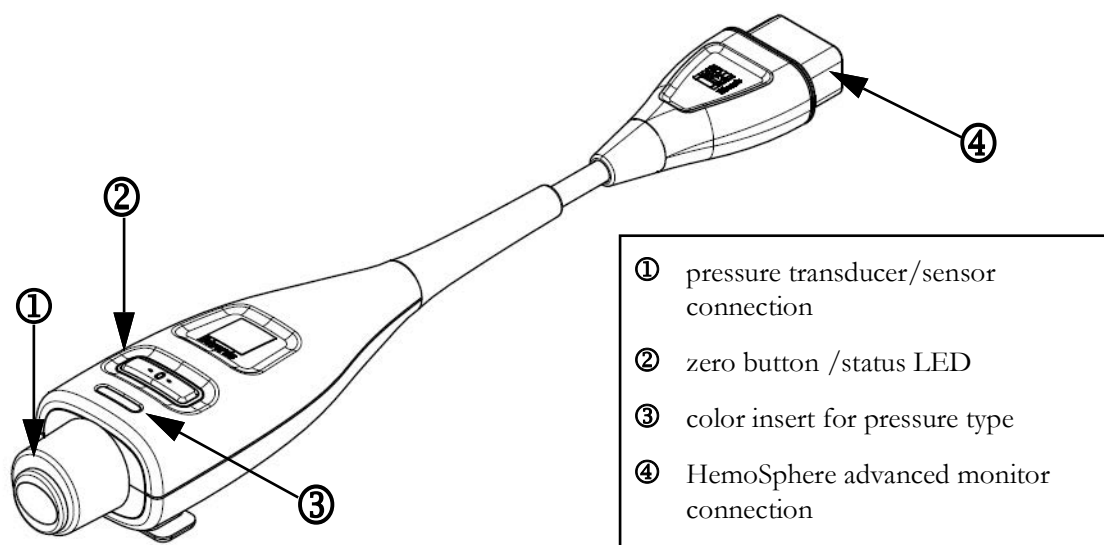

Figure 10-1 HemoSphere pressure cable
The HemoSphere pressure cable is a reusable device that connects with the HemoSphere monitor on one end ④ and any approved single Edwards disposable pressure transducer (DPT) or sensor on the other end ①. See figure 10-1 on page 183. The HemoSphere pressure cable acquires and processes a single pressure signal from a compatible Edwards DPT, such as the TruWave DPT, or a FloTrac sensor. A FloTrac, FloTrac Jr or Acumen IQ sensor connects to an existing arterial catheter to provide minimally invasive hemodynamic parameters. A TruWave transducer can connect to any compatible pressure monitoring catheter to provide location based intravascular pressure. Refer to the directions for use provided with each catheter for specific instructions on catheter placement and use, and for relevant warnings, cautions and notes. The HemoSphere pressure cable can be monitored through two technology monitoring modes based on the paired sensor/transducer: **FloTrac**, **FloTrac Jr**, or **Acumen IQ** sensor monitoring mode or **Swan-Ganz** catheter monitoring mode. The monitoring mode appears on the top of the navigation bar (see figure 5-2 on page 93). The appearance and connection points for the HemoSphere pressure cable are shown in figure 10-1.
Pressure Type Color Insert. If desired, the appropriate color insert can be used on the pressure cable to indicate the monitored pressure type. See ③ in figure 10-1 below. The colors are as follows:
- Red for arterial pressure (AP)
- Green for cardiac output (CO)
- 7 Use a straight in or out motion to connect the green connector of the primed FloTrac/FloTrac Jr sensor. The pressure cable LED that surrounds the zero button (see ② in figure 10-1) will flash green indicating that the pressure sensor is detected. A yellow light indicates a fault condition. If this occurs refer to the status bar for specific fault condition details.
Press the physical zero button  directly on the pressure cable and hold for three seconds (see figure 10-1).